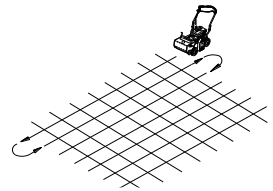

Fig. 7
- For best results overseed in two passes of one-half application rate each, at right angles or in a criss-cross pattern. (See Fig 7 & 8)
SLICING / OVERSEEDING: Mow the lawn to shorter than the normal cut height before starting (i.e. approximately 2" tall for fescue grass). For the best result, Slice/Overseed in criss-cross pattern (See Fig. 7 & 8).